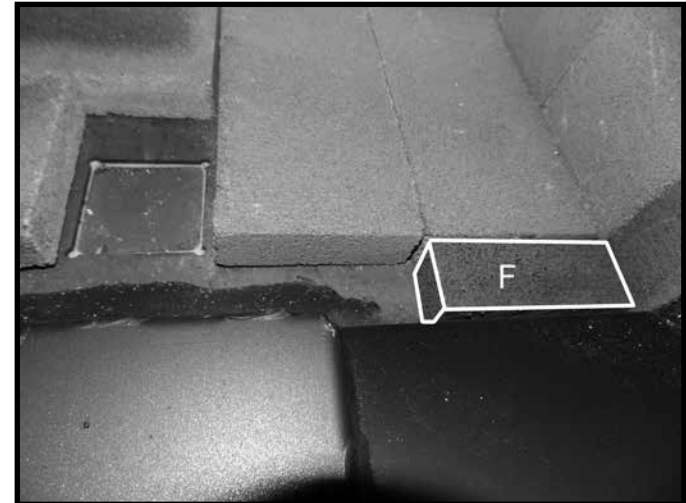
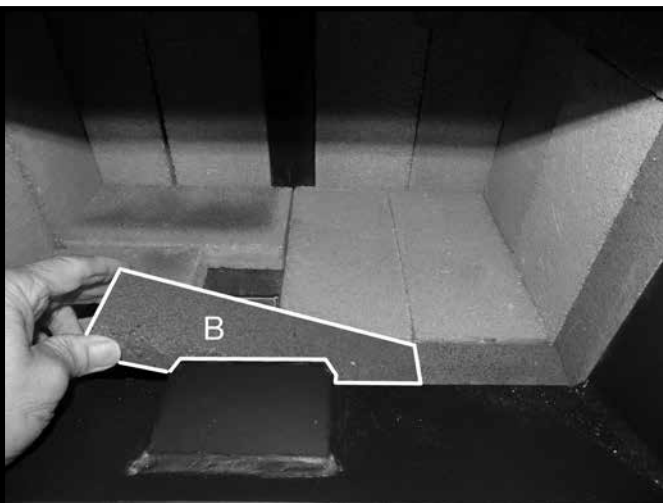

Figure 38: Short, narrow brick installed in front row.
Figure 39: Long narrow center brick in front row.
10. Place a short narrow "F" brick against the front right side of the floor (Figure 38) followed by a longer "B" brick in the center of the front row (Figure 39). Finish with the last "F" brick placed against the left side front row (Figure 40). Note: There will be a gap remaining behind the ash dump.